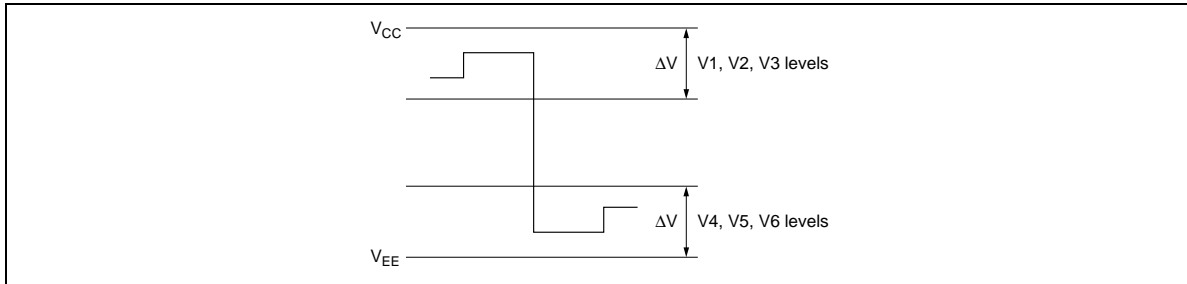

Figure 36 Driver Output Waveform and Voltage Levels
- $\overline{AEV} = 0.35 \times (V_{CC} - V_{EE})$. For levels V1, V2, and V3, the voltage supplied should be between the V_{CC} and the \overline{AEV} and for levels V4, V5, and V6, the voltage supplied should be between the V_{EE} and the \overline{AEV} (Figure 36).
4. $\Delta EV = 0.35 \times (V_{CC}-V_{EE})$. For levels V1, V2, and V3, the voltage supplied should be between the V_{CC} and the ΔEV and for levels V4, V5, and V6, the voltage supplied should be between the V_{EE} and the ΔEV (Figure 36).